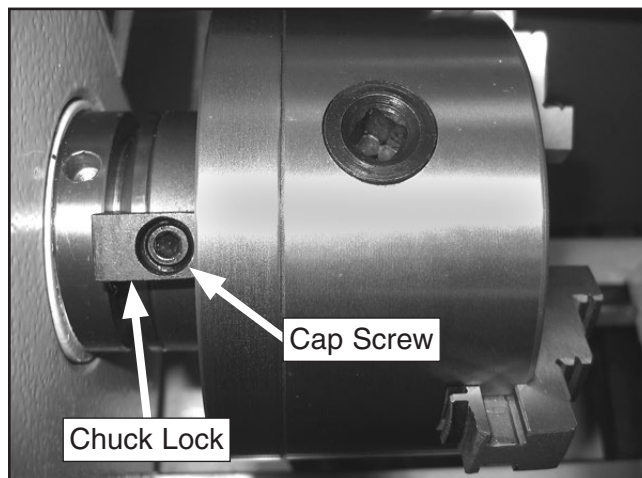

Figure 23. Chuck lock installed on spindle nose and chuck.
6. Install the chuck locks with the cap screws (see **Figure 23**).